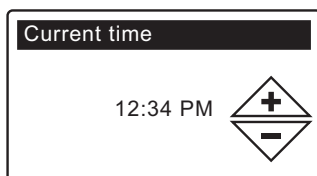

FIG. 15
- 5. CURRENT TIME** Press the DOWN (▼) or UP (▲) buttons to set the current time (See Figure 15). Hold the button down to rapidly advance. Be sure that AM or PM is correct. If the system units were set to metric in Step 3, the clock will be in 24-hour format.